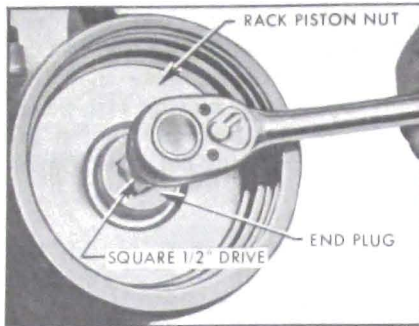

Figure 8-53—Removing Rack-Piston Nut End Plug
6. Remove rack-piston nut end plug with a 1/2 square drive. See Figure 8-53.